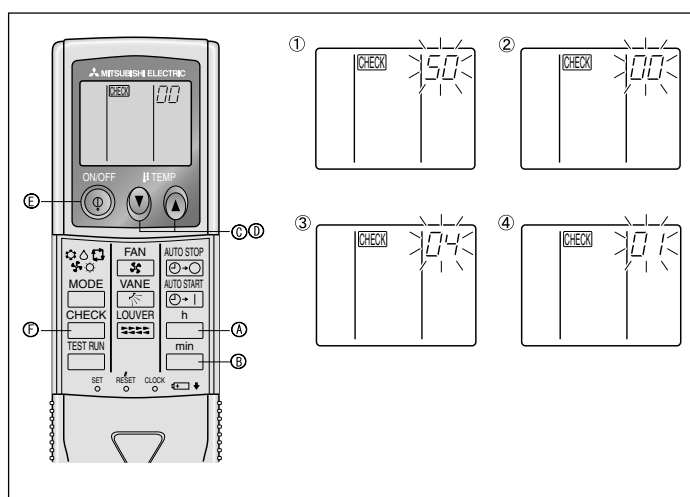

Fig. 6-10
⑧ Press the MODE button and mode and the setting number (1) and (2) will change to being on constantly and the contents of the setting can be confirmed.
⑨ Press the FILTER and TEST RUN buttons simultaneously for at least two seconds. The function selection screen will disappear momentarily and the air conditioner OFF display will appear.
2) For wireless remote controller (Fig. 6-10)